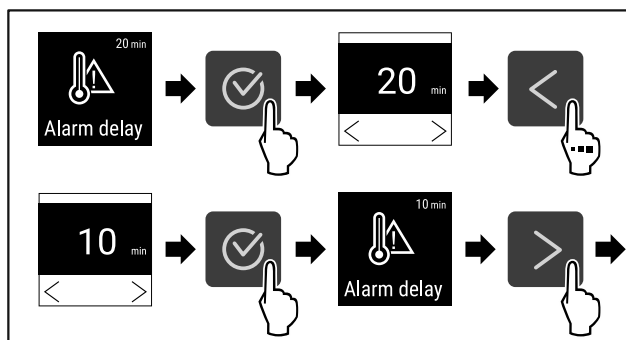

Fig. 133
- ▶ Complete steps (see Fig. 133).